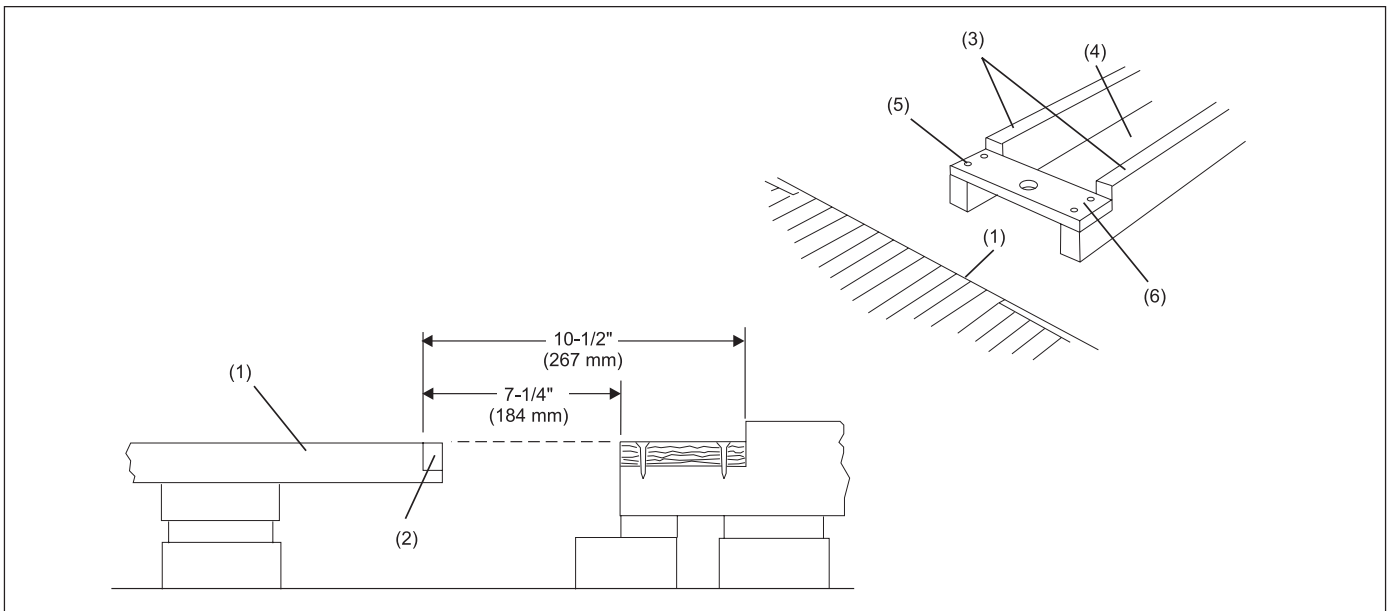

Figure 6.
1. On stringer or crib foundations notch the anchor strips and install the 9" x 2-3/4" x 3/4" Tel-E-Foul mounting plate using #14 x 1-1/2" flat head wood screws. The top of the mounting plate should be flush with the top of the approach fill. Refer to Figure 6.